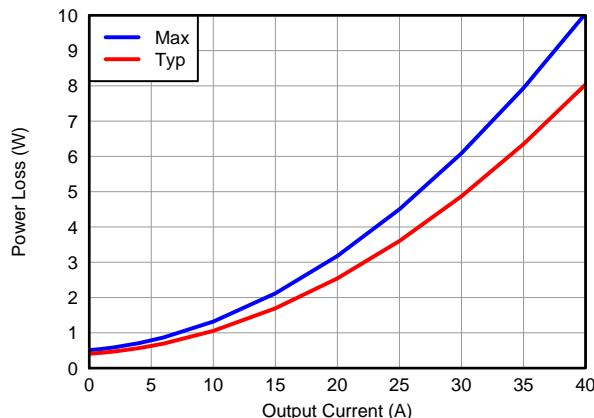
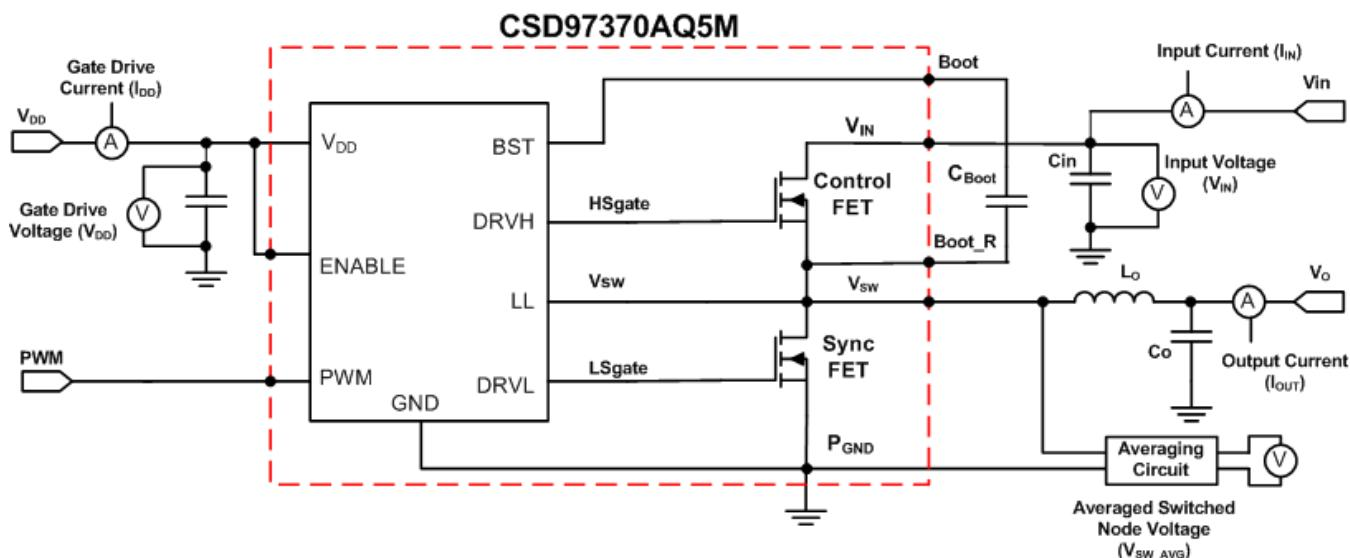

Figure 7. Power Loss vs Output Current
Figure 18. Power Loss Test Circuit
MOSFET centric parameters such as  $R_{DS(ON)}$  and  $Q_{gd}$  are primarily needed by engineers to estimate the loss generated by the devices. In an effort to simplify the design process for engineers, Texas Instruments has provided measured power loss performance curves. Figure 7 plots the power loss of the CSD97370AQ5M as a function of load current. This curve is measured by configuring and running the CSD97370AQ5M as it would be in the final application (see Figure 18). The measured power loss is the CSD97370AQ5M device power loss which consists of both input conversion loss and gate drive loss. Equation 1 is used to generate the power loss curve.
The power loss curve in Figure 7 is measured at the maximum recommended junction temperature of  $T_J = 125^\circ\text{C}$  under isothermal test conditions.
- Typical Power Loss at 25A = 3.5W (Figure 7)